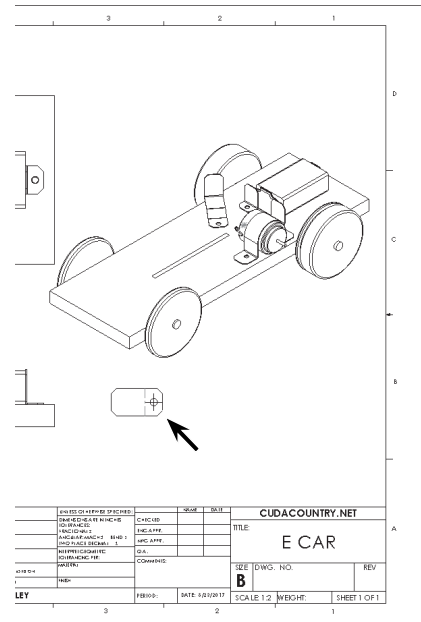

Fig. 9
- Step 8. Move the cursor into the graphic area and click to place the L-Bracket flat pattern view as shown in **Fig. 9**.